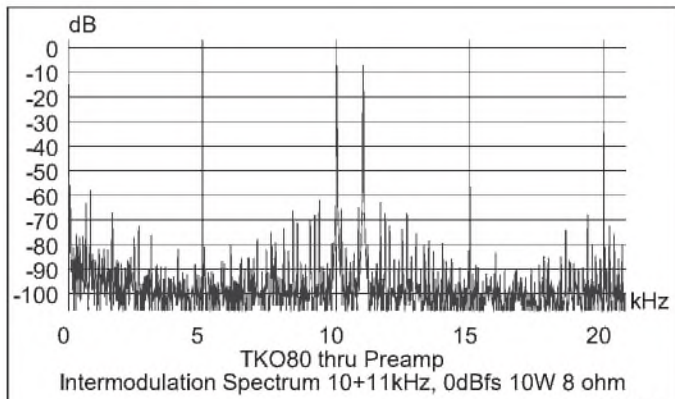

FIGURE 23: 10kHz + 1kHz intermodulation distortion, original.
*Figure 23* shows the original TKO 80 amplifier output spectrum reproducing a combined 10kHz + 11kHz intermodulation distortion (IMD) signal at 12V pp into 8 $\Omega$ . The 1kHz IMD product is 0.13%, while the 9kHz and 12kHz products are a bit lower at 0.08%.